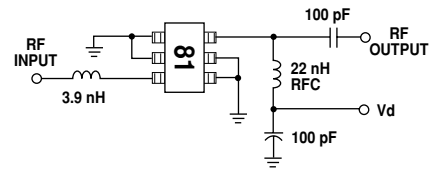
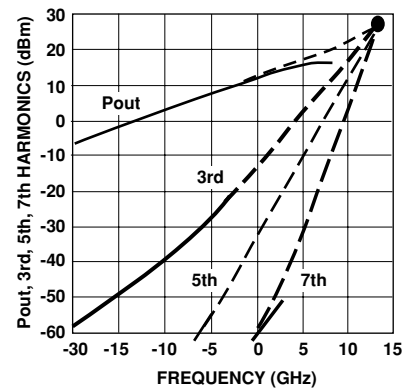

Figure 10. Test Circuit.
Figure 19. Intermodulation Products vs. Input Power. ( $V_d = 3.0$  V)
1. Guaranteed specifications are 100% tested in the circuit in Figure 10 in the Applications Information section.
The circuit shown in Figure 10 is used for 100% RF testing of Noise Figure and Gain. The 3.9 nH inductor at the input fix-tunes the circuit to 2 GHz. The only purpose of the RFC at the output is to apply DC bias to the device under test. Tests in this circuit are used to guarantee the  $NF_{test}$  and  $G_{test}$  parameters shown in the table of Electrical Specifications.
Like other active devices, the intermodulation products of the MGA-81563 increase as the device is driven further into nonlinear operation. The 3rd, 5th, and 7th order intermodulation products of the MGA-81563 are shown in Figure 19 along with the fundamental response. This data was measured in the test circuit in Figure 10.